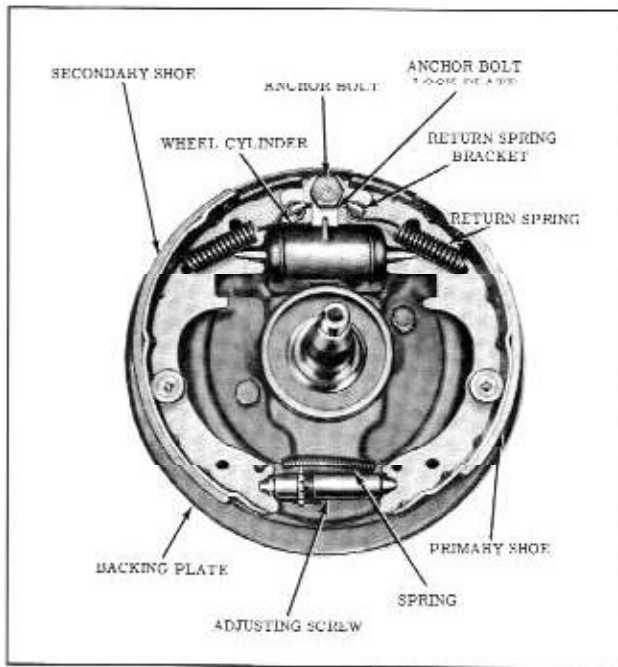

Figure 7-14 Front Brake Assembly
3. Remove brake shoe return springs and hold-down pins. (Fig. 7-14)
- Assemble primary to secondary shoe spring to the shoes, and install the adjusting screws. (Fig. 7-14) The left side of car adjusting screws have left hand threads and can be identified by 4 grooves. All adjusting screws must be assembled with "SPROCKET" end of the screw toward the rear of the car.